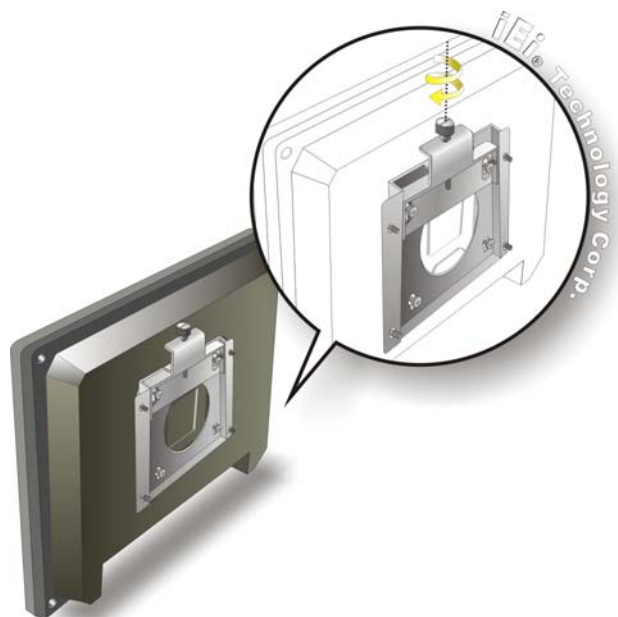

Figure 4-14: Secure the Panel PC
Step 9: Secure the panel PC by fastening the retention screw of the wall-mounting bracket. (Figure 4-14).